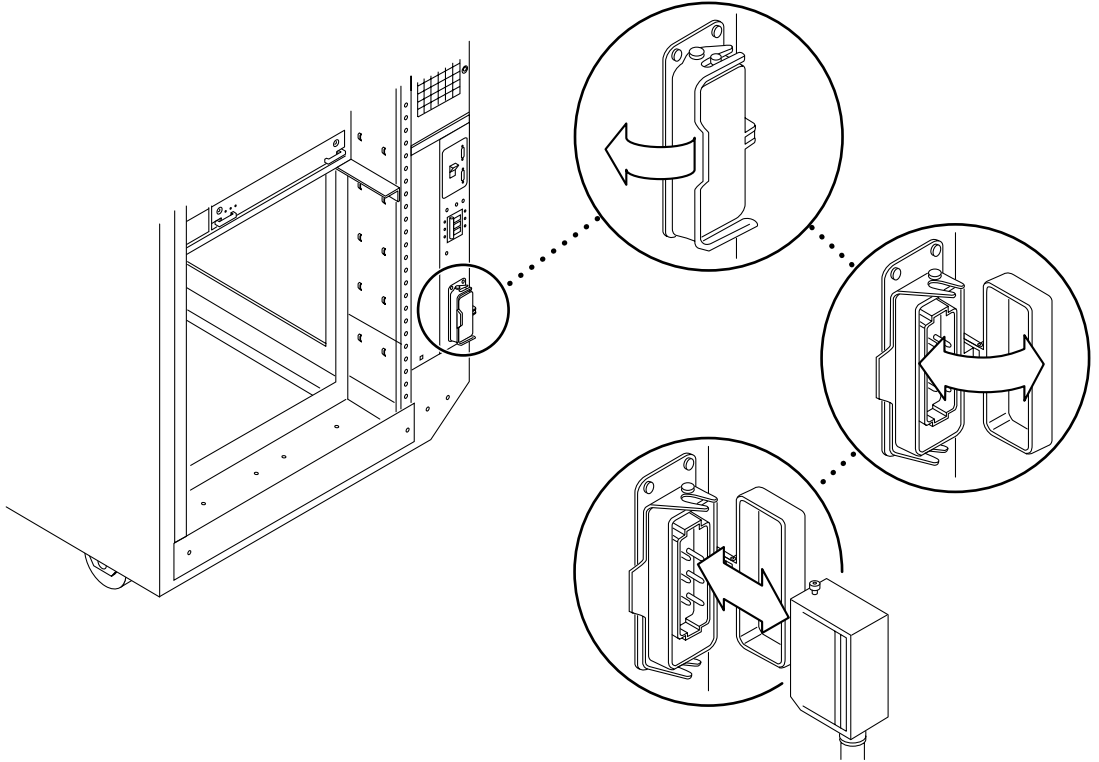

FIGURE E-2 Opening the Power Connector Cover
3. **Push back and release the latch (FIGURE E-2) attaching the power cable to the power connector.**
- 1. Pull back the power connector cover (FIGURE E-2) to expose the power connector.**